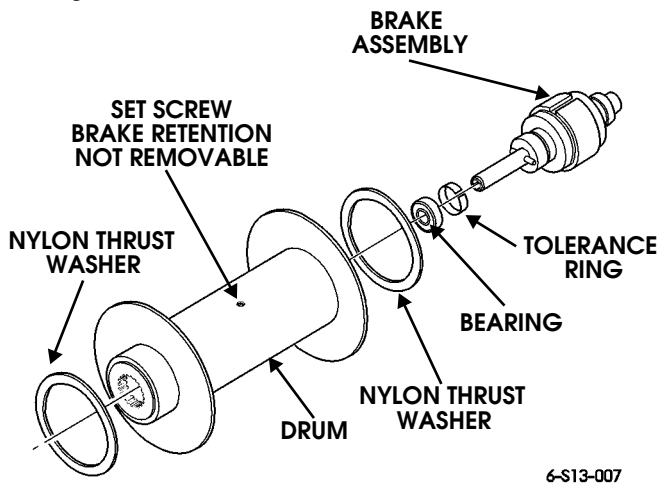

Figure 13-9: Thrust Washers and Brake
10. Remove two nylon thrust washers from drum (Figure 13-9).
12. Push brake through open end of drum and remove (Figure 13-9).